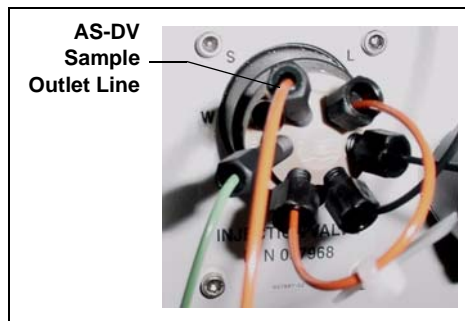

Figure 5. IC System Injection Valve
4. Connect the outlet sample line from the AS-DV to port **S (5)** on the injection valve (see Figure 5).